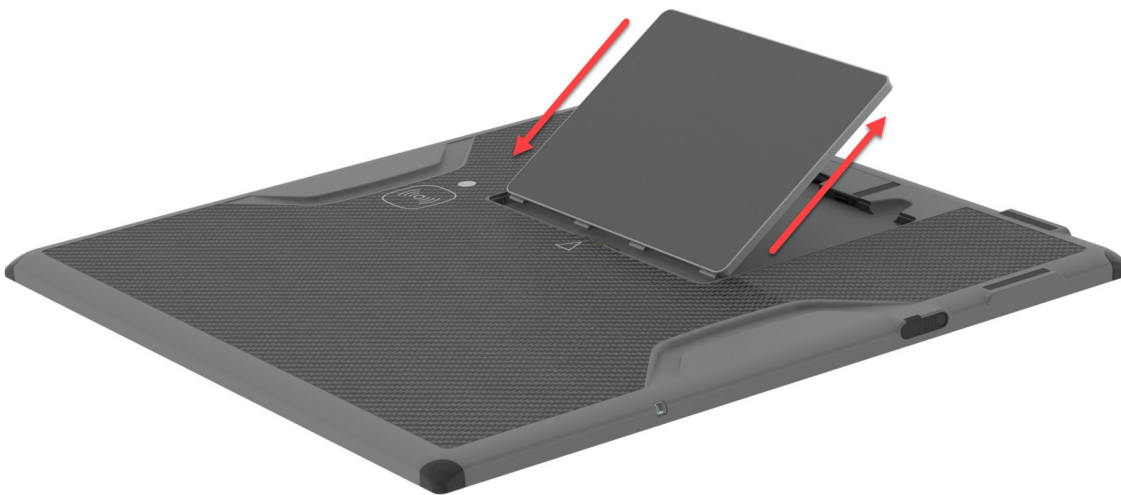

Figure 16 Reboot Sequence
- 1 Insert and remove the Battery **4 times within an 8 second window**, see Figure 16.